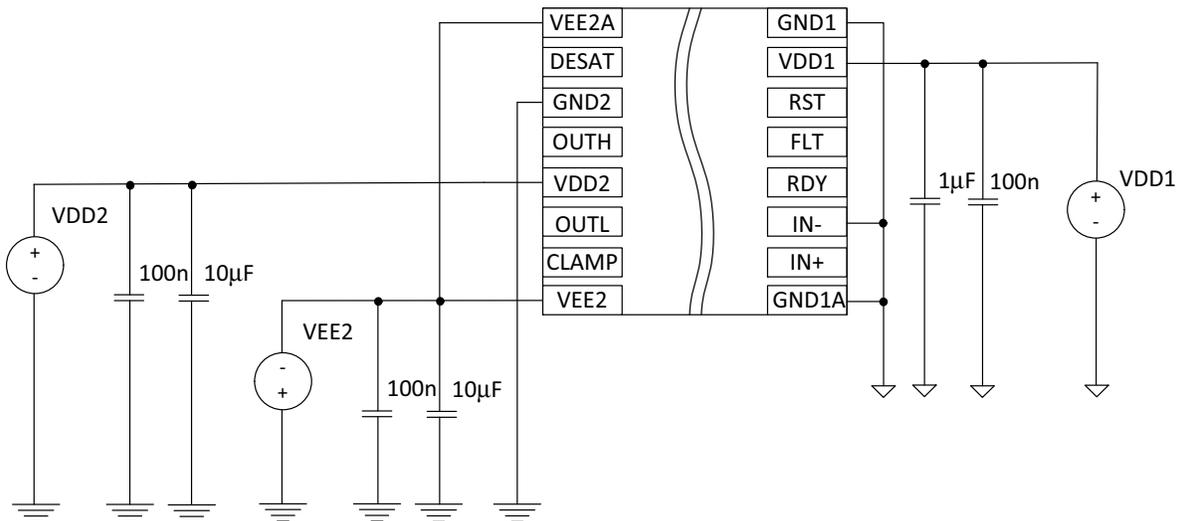

Figure 24. Bipolar Power Supply
- In bipolar power supply the driver is typically supplied with a positive voltage of 15 V at VDD2 and negative voltage –5 V at VEE2 (Figure 24). Negative power supply prevents a dynamic turn on throughout the internal IGBT input capacitance.